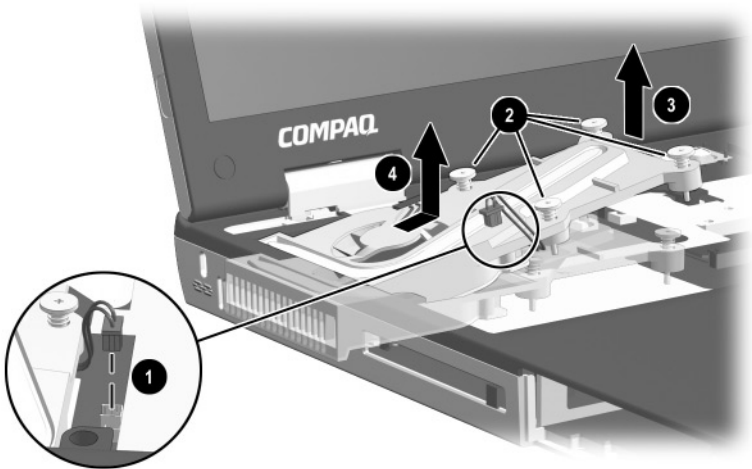

Figure 5-13. Removing the Fan Assembly
4. Disconnect the fan cable from the system board ❶ (Figure 5-13).
5. Loosen the four silver M2.5 × 18 shoulder screws ❷ that secure the fan assembly to the base enclosure.